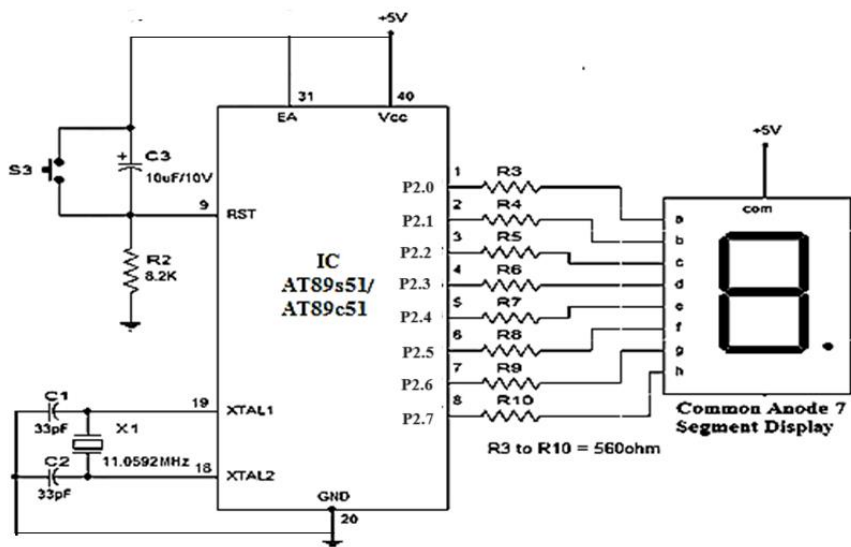

Fig 18.4 8051 connection to Common Anode seven segment display
8. Interface Common Anode type 7 segment display to microcontroller as per circuit diagram shown in fig 18.4.